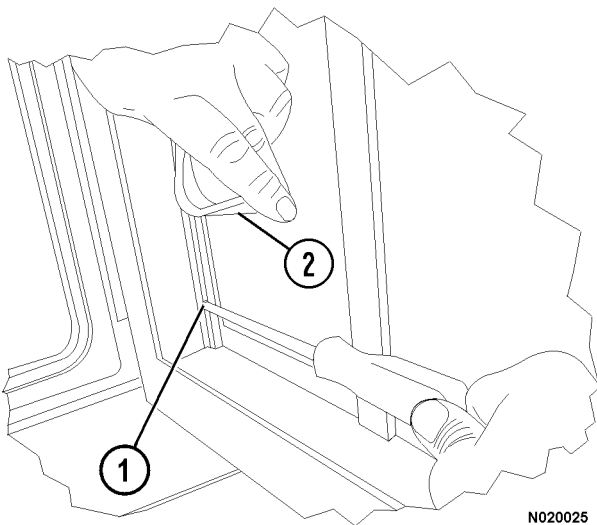

FIGURE 2-10.
4. Remove rubber felt insert (2, Figure 2-10) from the channel. Remove screw (1) at the lower end of the window channels.